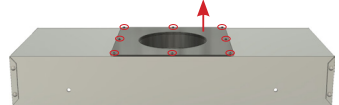

Figure 3
- Flip the Hood Unit body over so that the Vent Opening is facing the ceiling. Remove the screws around the Vent Opening and flip the black Vent Out Adapter over. **(Figure 3)**